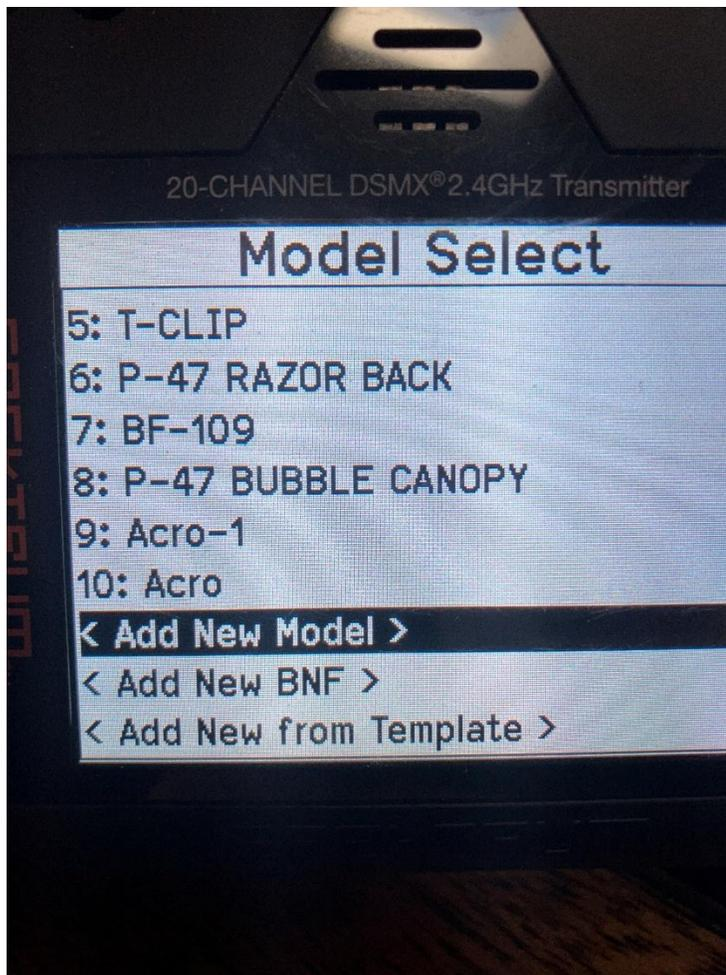

Figure 3.0 Model Select- Add New Model
- d. Then from the **Model Select** screen scroll down until you find the **<Add New Model>** option as shown in *Figure 3.0 Model Select – Add New Model* and click it.